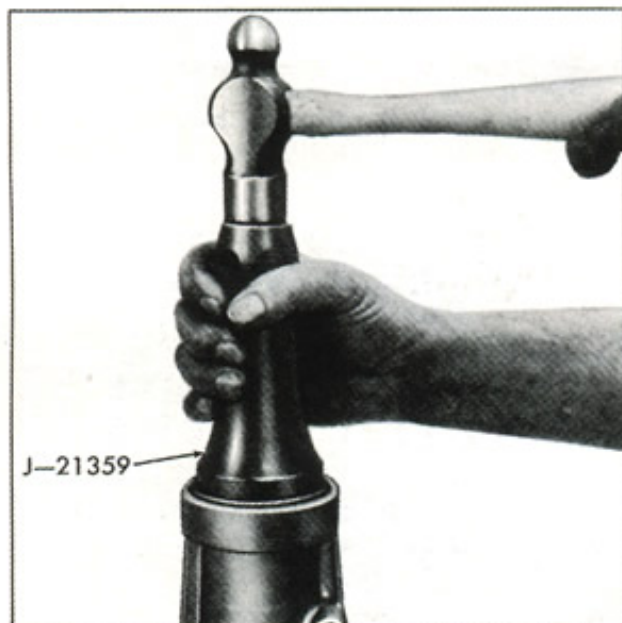

Fig. 12—Installing Rear Extension Seal
4. Coat I.D. of bushing and seal with transmission lubricant. Install new seal using Tool J-21359 (Fig. 12).